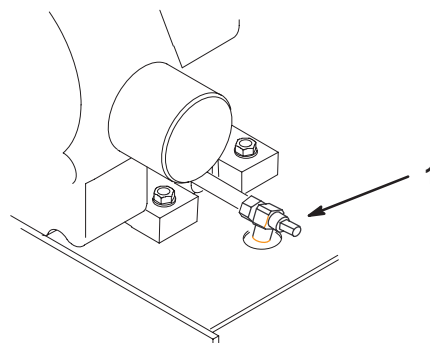

Figure 38
3. Place a pan below the oil drain. Rotate oil drain valve to allow oil to drain (Fig. 38).